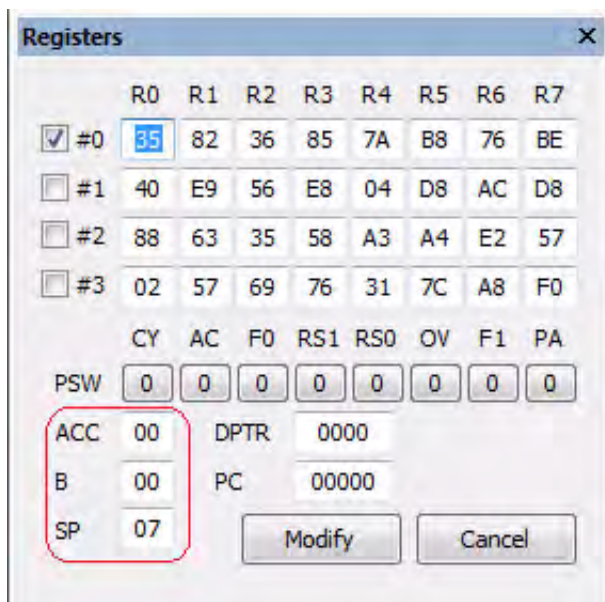

Figure 35. Using the Registers Function, #5 of 6
In Figure 35, the red area highlights the Accumulator (ACC), the B Register (B) and the Stack Pointer (SP) registers. Enter a number in n 8-bit hexadecimal format to change any of these values.